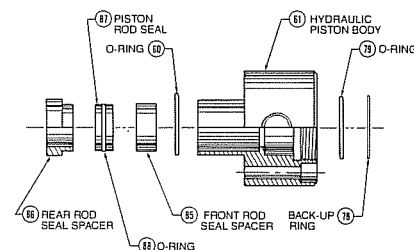

Figure 7-22, Hydraulic piston body components.
7.4.1 Check to see if the hydraulic piston (61) (new replacement body) slides freely with the mating hole in the oil end plate (58). If not, the body may require the polishing of its smaller O.D. to achieve a proper fit. Wash in clean solvent. Check rod seal spacers (86 & 85 new replacement spacers) to see if they slide freely onto piston rod (64). If fit is too tight, polish I.D. of spacers and wash in solvent. See Figure 7-22.